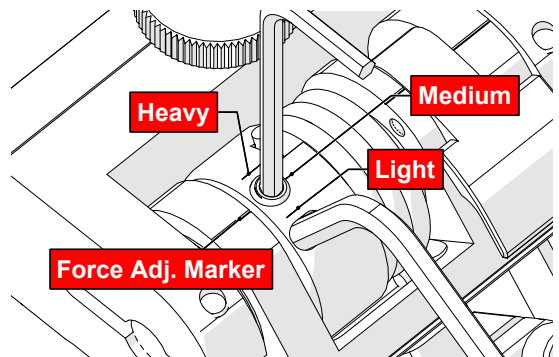

Fig. 80 - Choose desired tension
6. Gently apply pressure on the long leg of the 3 mm hex wrench until the force adjustment marker lines up with the desired spring tension. While keeping the markers in line, tighten the force adjustment screw (Fig. 80).